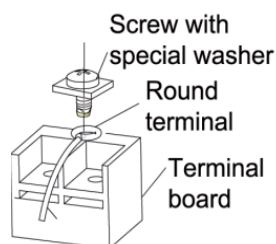

Fig. 27
4). Position the round terminal wire, and replace and tighten the terminal screw with a screwdriver.(Fig. 27)